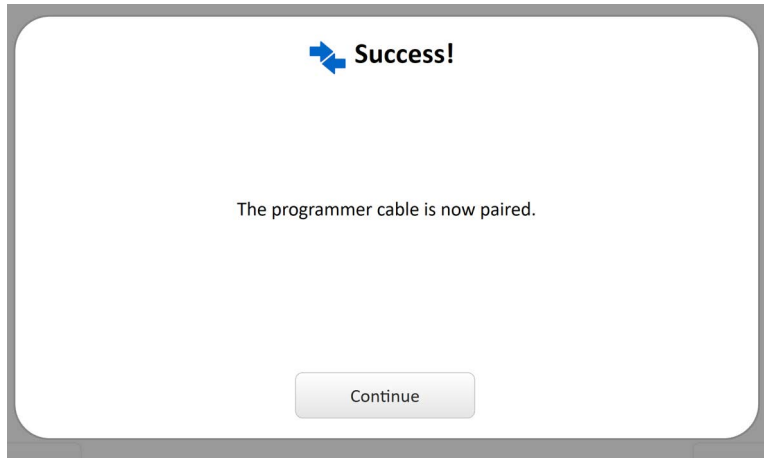

Figure 3-11. Programmer Cable Paired Successfully
- e. When pairing has completed successfully (Figure 3-11), select **Continue**.